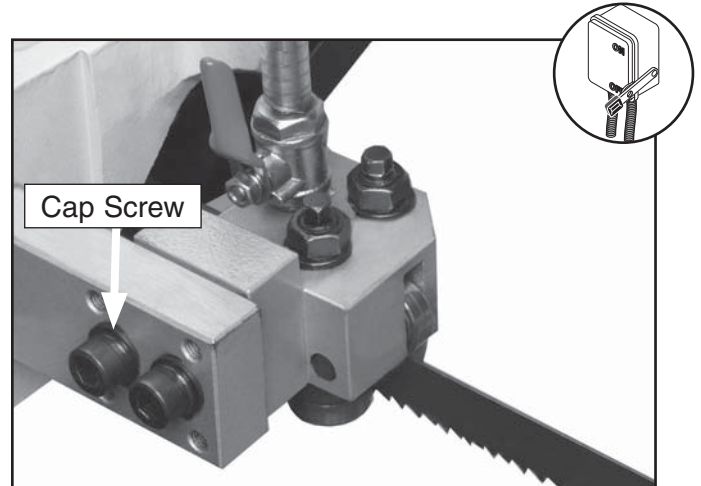

Figure 55. G0613 blade guide adjustment.
6. Loosen the two cap screws, then alternately adjust the four 4mm set screws to tilt the blade guide assembly and the blade square the vise. See **Figure 55** or **56** for your model of bandsaw.